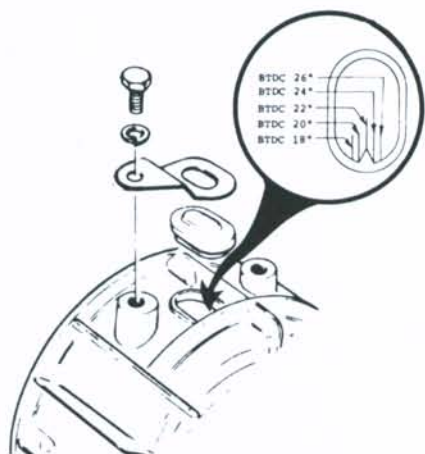

Fig. 1—View of magneto case on single cylinder engine showing timing marks aligned.
**Breaker Point Ignition.** On single cylinder AB25F1 engine, breaker point gap should be 0.012-0.016 inch (0.3-0.4 mm) and timing should be 22° BTDC. Timing can be checked by removing the timing cap on top side of magneto case and viewing the scribed timing marks on magneto rotor (flywheel) as shown in Fig. 1. The long single mark indicates TDC position when aligned with timing pointer, and correct (22° BTDC) timing mark is the center mark of the group of five, counterclockwise from the single TDC mark. Timing is correct when points open at the moment indicated (22° BTDC). Point opening can be best determined using a buzzer equipped ignition tester, a change in sound indicating the moment the points break. Flywheel must be removed to renew breaker points or adjust timing by moving breaker plate.
On later models, a timing pointer is affixed to the magneto case and timing marks are present on the flywheel. Timing marks on fan cooled models are visible after removing the fan cover or fan belt cover. Timing marks on liquid-cooled models are visible after removing the cover plate adjacent to the CDI module. A typical set of timing marks is shown in Fig. 1. Each mark indicates an increment of 2°. The center mark indicates 22° BTDC on Models AA28F, AB25F and AD50F, 27° BTDC on Model AH50L and 18° BTDC on all other models. If accuracy of timing marks is doubted, verify timing marks using static timing procedure. Refer to CONDENSED SERVICE DATA for ignition timing specifications. Dynamic timing is performed with engine running at 6000 rpm.